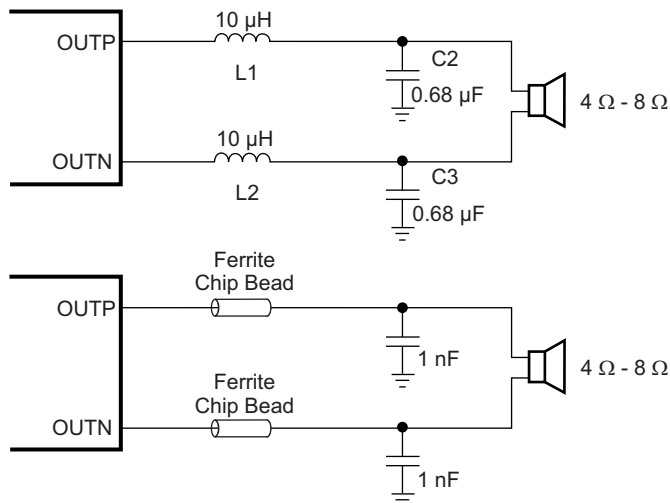

Figure 27. Output Filter Configurations
- Output filter — The ferrite EMI filter (see Figure 27) should be placed as close to the output terminals as possible for the best EMI performance. The LC filter should be placed close to the outputs. The capacitors used in both the ferrite and LC filters should be grounded.